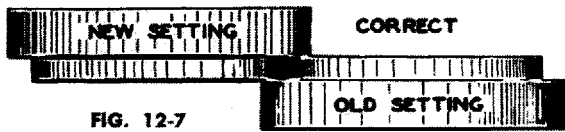

FIG. 12-7
Figure 12-7 illustrates a method of determining whether or not the shoulder on the new setting is exactly the same as the shoulder on the old setting. Figure 12-8 shows the old setting in comparison with one in which the shoulder is cut too deep. Figure 12-9 illustrates too shallow a shoulder. The only way a student rectify these errors would be to return the setting to his supply house with complete instructions, thus enabling them to make the corrections. When you have progressed into your lathe work, you will learn how to correct a setting that does not conform to your requirements.
6. Compare shoulders (figure 12-7).